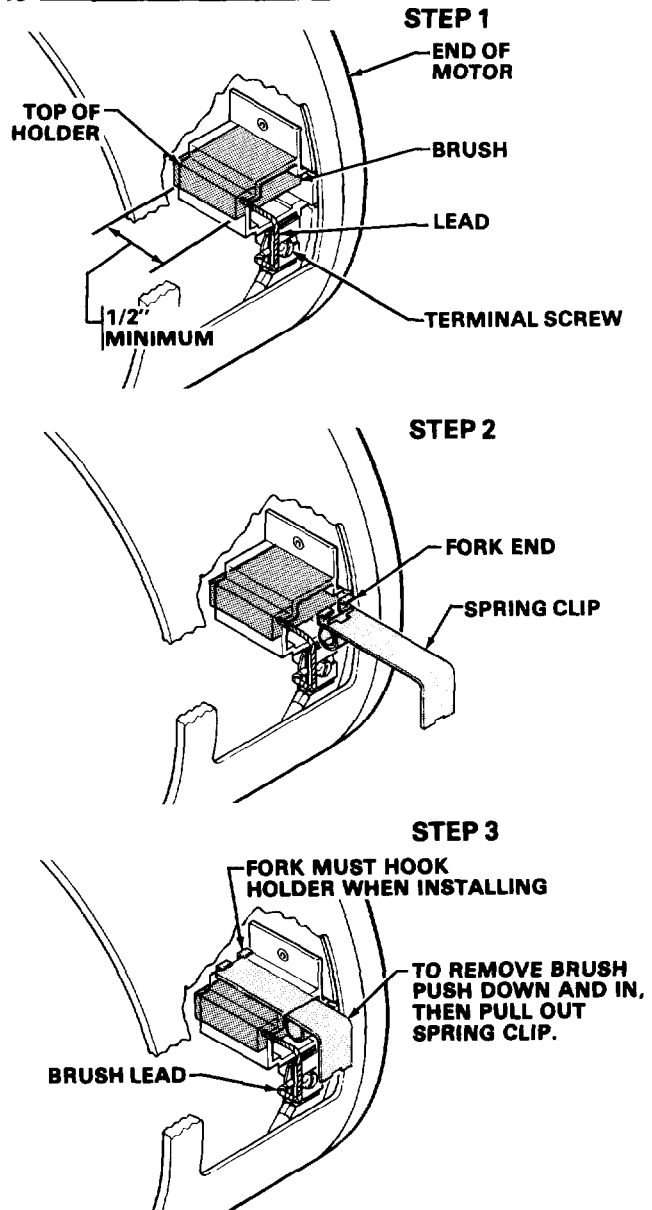

Fig 11
NOTE: Replace the brushes when they have worn to no less than 1/2" minimum. See Fig 11. Note that the brushes wear differently on each side of the motor. Brush Repair Kit 820-521 is available.
3. Push down and then in on the spring clip, and then pull the clip out of the brush holder. Refer to STEP 3, Fig 11. Keep the spring clip.
7. Place a new brush in the holder so the lead is at the top of the holder. Place the brush lead terminal on the terminal screw so the terminal is parallel with the brush holder. Tighten the terminal screw. See STEP 1, Fig 11.
8. With the spring roll touching the brush, push the forked end of the spring clip into the brush holder. See STEP 2, Fig 11. When the fork passes through the end of the holder, push the clip up or down until the fork hooks at the end of the holder. See STEP 3, Fig 11.
9. Position the brush lead as in STEP 3, Fig 11. Be sure the brush lead does not touch any part of the armature or motor housing.